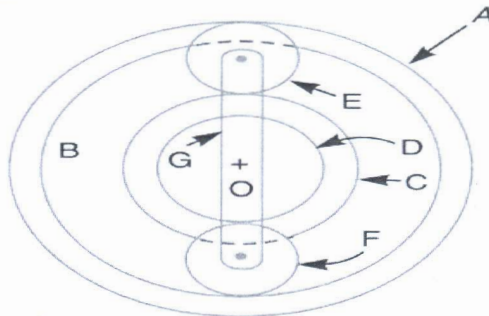

Figure 2
b) In an epicyclic gear train as shown in figure 2, the internal wheels A and B and compound wheels C and D rotate independently about axis O. The wheels E and F rotate on pins fixed to the arm G. E gears with A and C and F gears with B and D. All the wheels have the same module and the number of teeth are : $T_C = 28$; $T_D = 26$; $T_E = T_F = 18$.